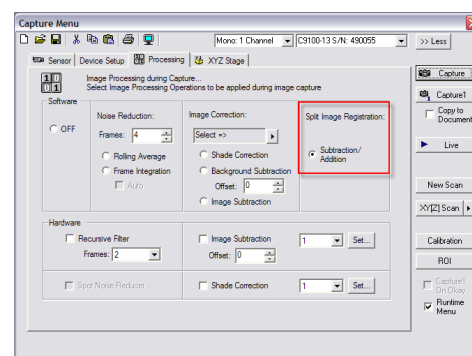

fig.1
6. Turn Processing Off. Check Off from the Processing Tab (**fig.1**).